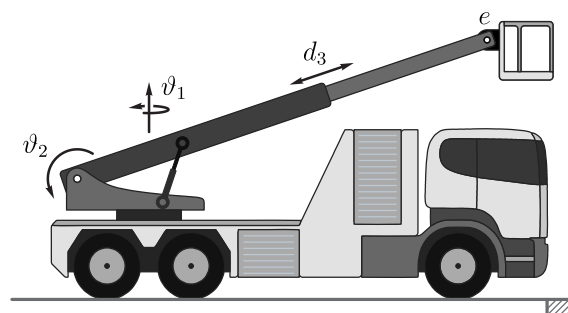

Figure 2: Fire engine with aerial platform.
2. Consider the aerial platform illustrated in Figure 2. Neglect the basket's rotation about the telescopic arm, so that the end-effector  $e$  corresponds to the telescopic arm's extremity. Assume also that the truck is unmovable.